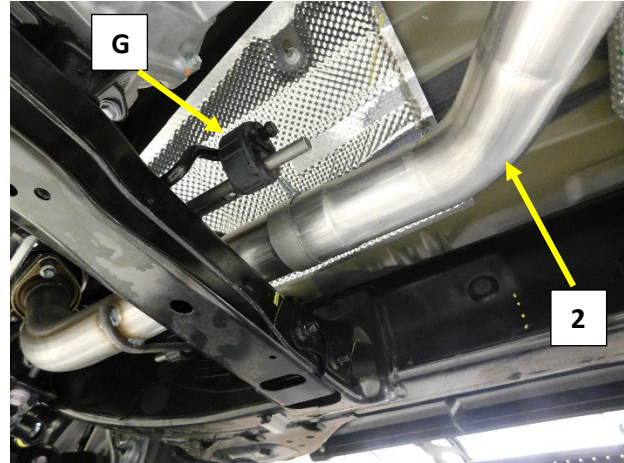

Figure.4
3. Install a 3" band clamp (12) into the inlet (expanded section) of the Muffler inlet pipe (2). Position the clamp with the bolt at the top of the expanded section and the nut facing the transmission. **Fig.4/5**
4. Install the muffler inlet pipe (2) on to the down pipe (1), align the hanger rods with the frame hangers and install the rubber isolators. **Fig.4/5/6**